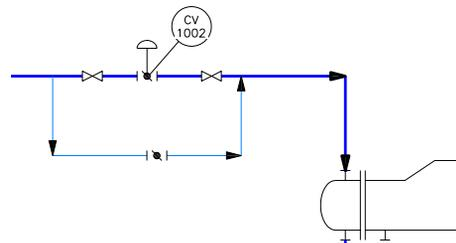

Figure 2-64 Location of gate valves and the butterfly valve
- Similarly, place two gate valves and a butterfly valve on the pipe which is connected to the heat exchanger, as shown in Figure 2-64.